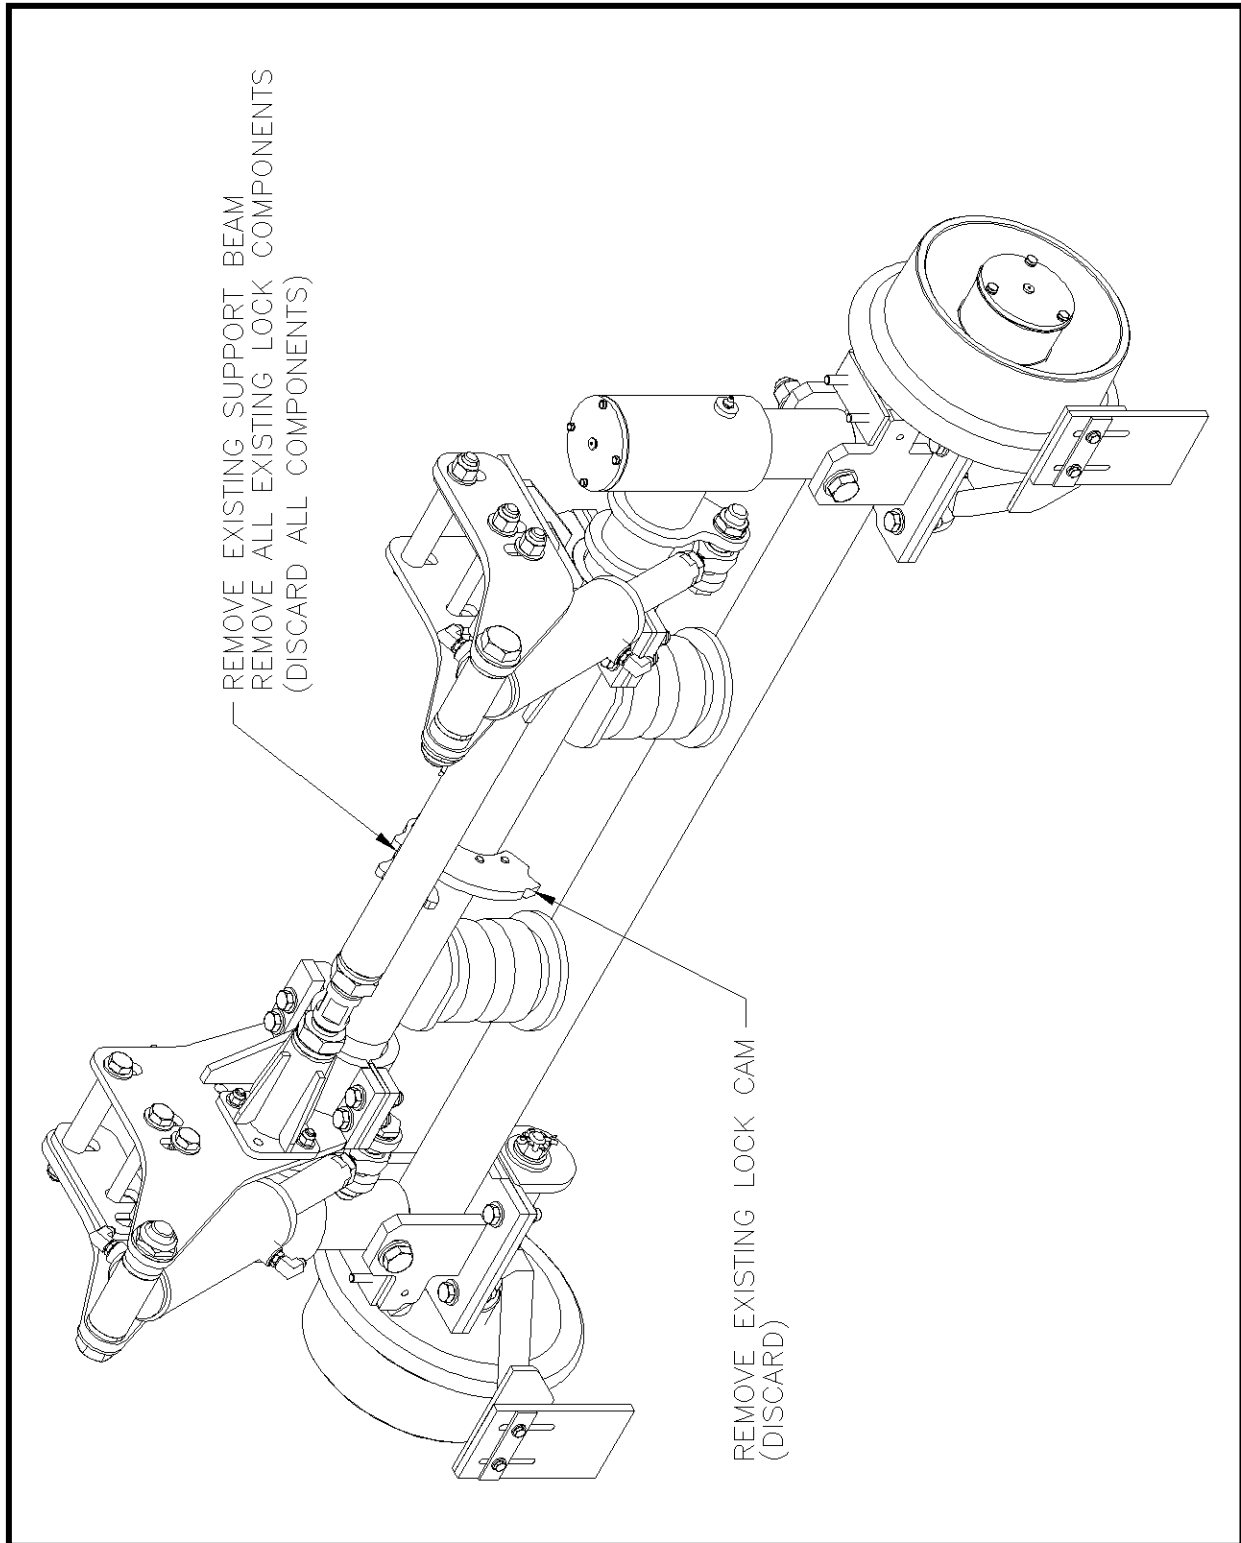

Figure 1
1. Remove the existing support beam from vehicle along with all remaining lock components; spring, lock pin, pull rod/pull cable, hardware etc..and discard. None of the existing components will be reused. (Figure 1)
2. Remove existing lock cam from the vehicle. This conversion will not work with the existing lock cam. (Figure 1)